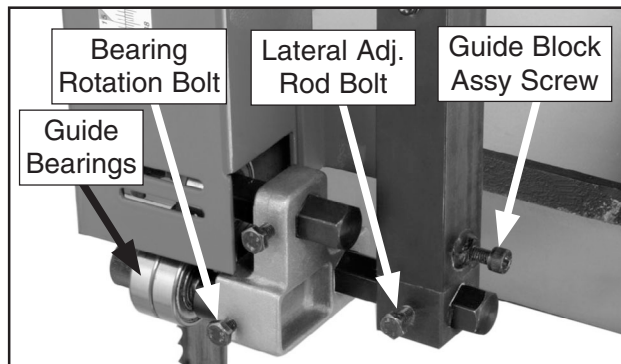

Figure 36. Upper blade guide controls (rear view).
3. Familiarize yourself with the blade guide controls shown in **Figure 36 & 37**.
3. Familiarize yourself with the upper support bearing controls shown in **Figure 36 & 37**.